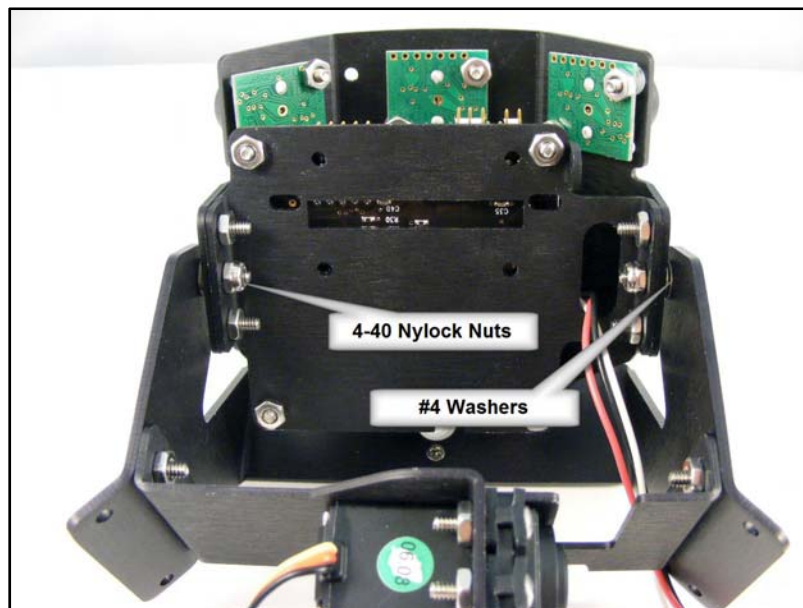

Figure 31
- 16.) Now attach the Sensor Shell to the Turret Pivot as shown in Figure 31 below using the two 4-40 x 1/2" bolts you just inserted into the Pivot above, and two 4-40 Nylock nuts, with the #4 washers sandwiched between the Sensor Shell and the Pivot. **Make sure you tighten down the locknuts all the way, then back off a little to ensure easy and smooth tilting operation.**